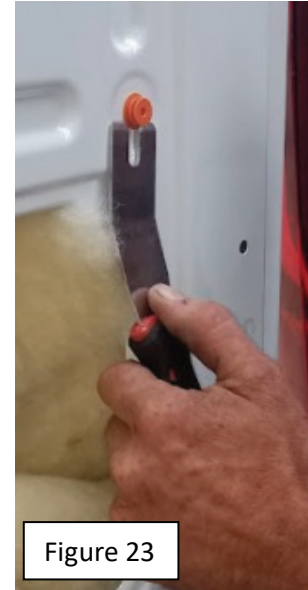

Figure 23
- iii. Use a door panel clip tool to remove any clips that did not pull out with the panel, as shown in figure 23, and replace into the backside of the door panel. Set the panel with all retaining clips aside for reinstallation later.